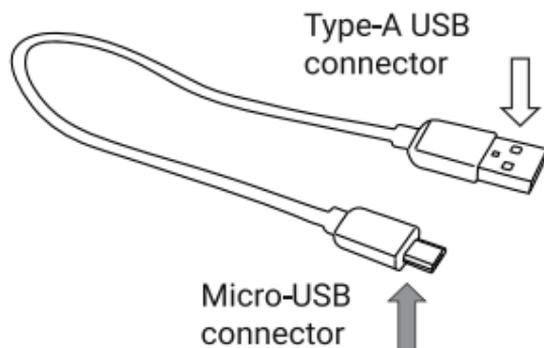

Figure 5. USB charging cable
- The USB charging cable (see Fig. 5.)